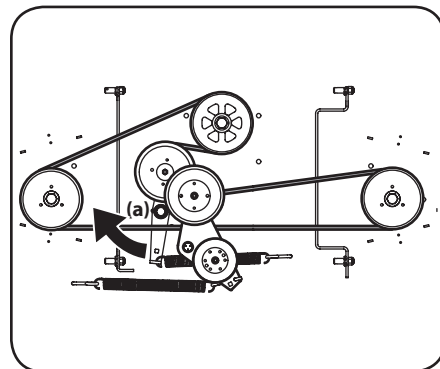

Figure 4-16
5. Using a 1/2" drive insert the end into the 1/2" square opening in the deck idler assembly (a) and rotate the deck idler assembly (a) clockwise. See Figure 4-16. While holding the deck idler assembly (a), loosen the deck belt from the pulley and slide the belt away from the pulley.
6. Route the new belt as shown in Figure 4-16. Then reinstall the deck and PTO belt as instructed on pages 24-25.